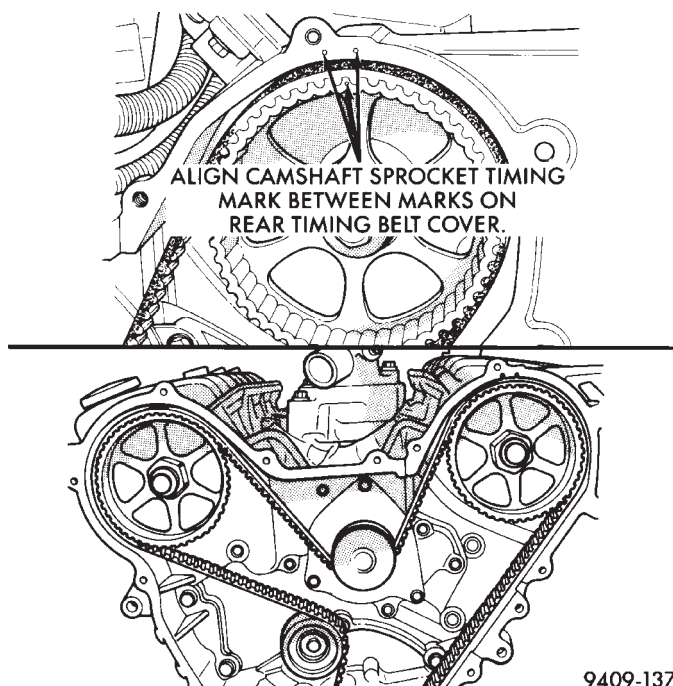

Fig. 66 Camshaft Sprocket Timing Marks
(1) Mark belt running direction if belt is to be reused.
(2) Align the camshaft sprockets between the marks on rear belt covers before timing belt removal (Fig. 66).
(2) Align the camshaft sprockets between the marks on the covers (Fig. 66).